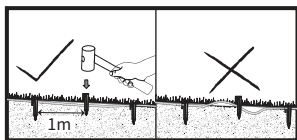

Fig.3-3-4
- Secure the boundary wire into the ground with supplied pegs. Keep the boundary wire straight and tight. It is recommended that each peg should be placed 1m apart (can be adjusted according to the specific lawn) (Fig.3-3-4).